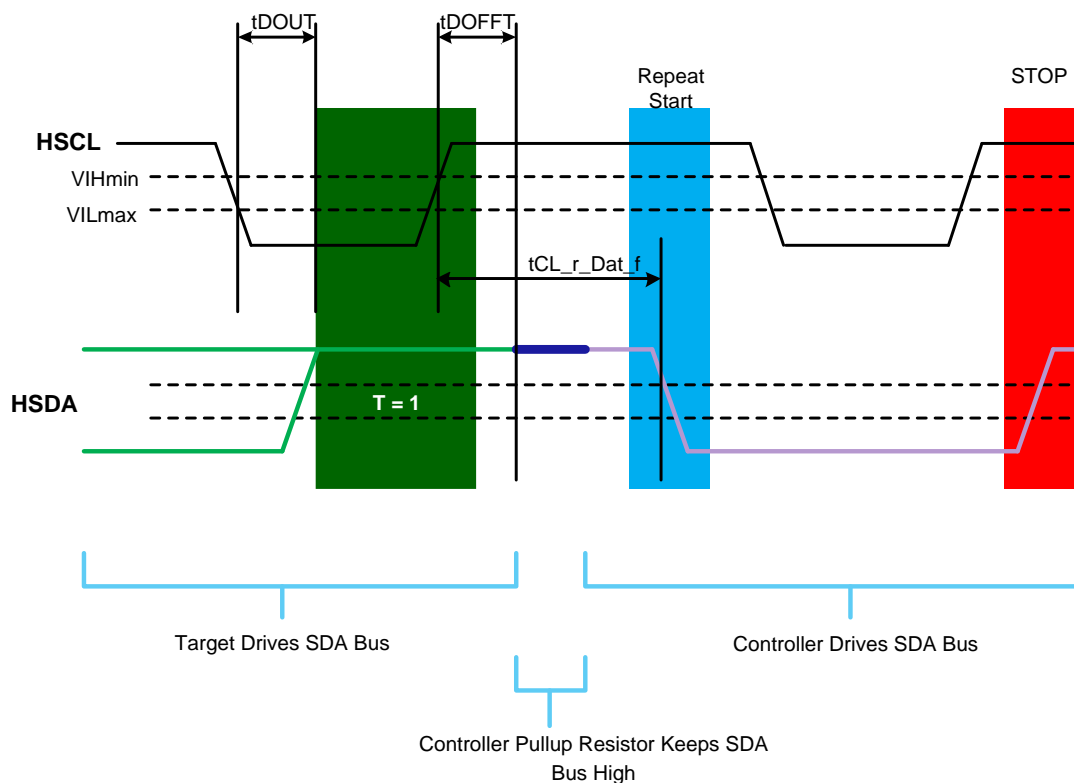

Figure 14 T = 1; Host Ends Read with Repeated START and STOP Waveform
7. See Figure 14 to see how Host ends Target device operation.
2. See Figure 14 to see how Host ends Target device operation.
4. See Figure 14 to see how Host ends Target device operation.